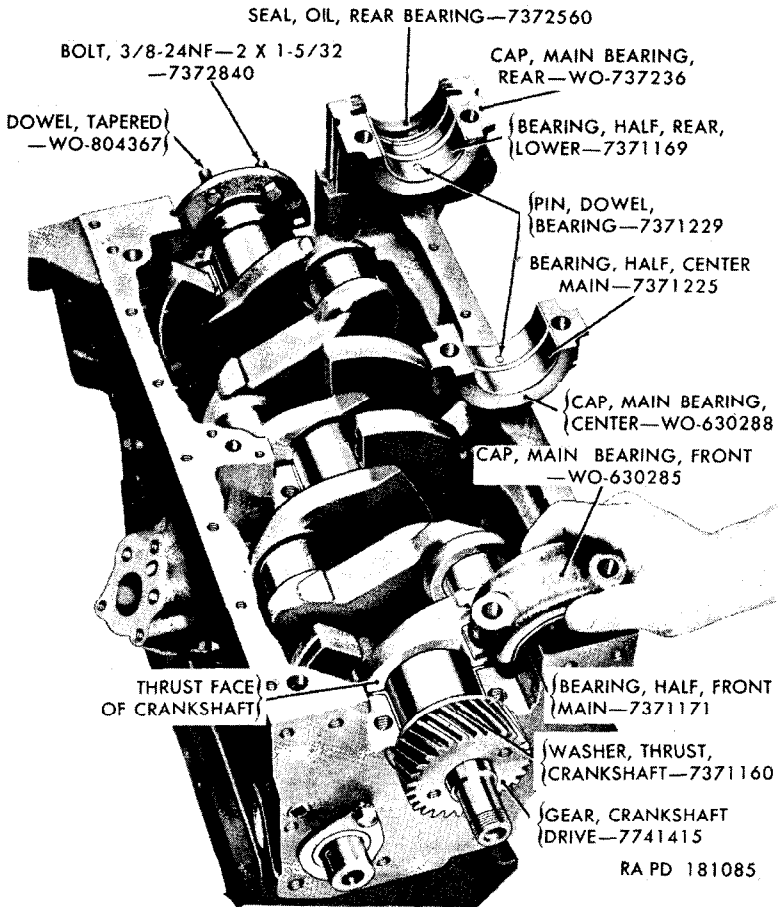
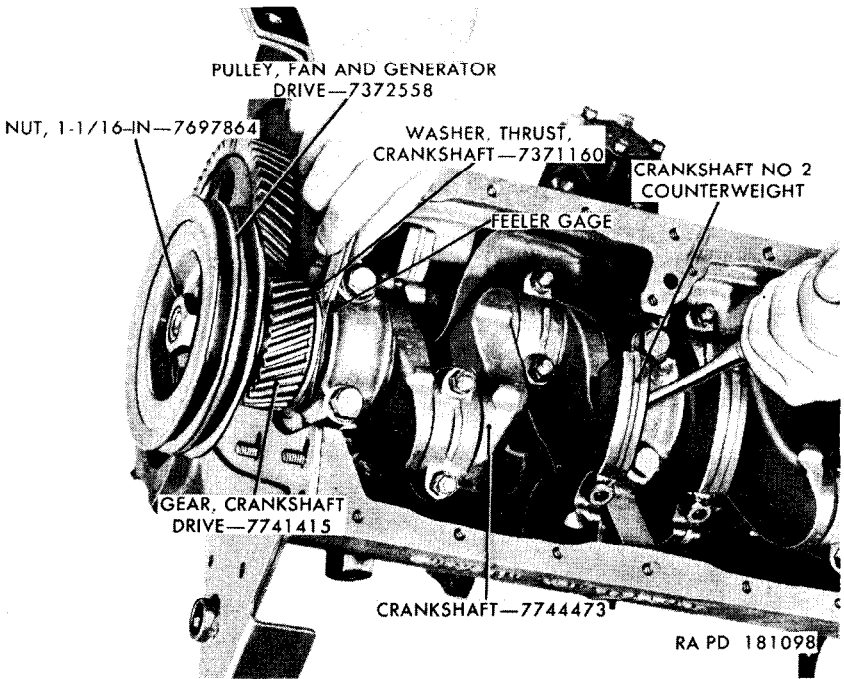

Figure 74. Installing main bearing halves in main bearing caps.
Figure 87. Gaging crankshaft end play.
- (1) Insert the other half of the rear bearing oil seal (fig. 74), a bearing dowel pin with the small diameter projecting into the bore, and the other half of the rear main bearing in the rear main bearing cap. Note that both halves of the rear main bearing have double oil grooves and non-flanged sides.
g. Lightly coat both ends of both halves of the rear bearing oil seal and both sides of the crankshaft rear main bearing cap (fig. 74) with plastic type gasket cement and install the bearing cap in the cylinder block. Coat both pieces of the rear bearing cap packing with plastic type gasket cement and insert the packing into the holes on
b. Install the center and front main bearings repeating operation a(1) and (2) above on each bearing.
Note. It is essential for the flanged sides of both halves of the front main bearing to be in perfect alignment when the front main bearing cap is tightened for the last time after completion of operations a(1) and (2) above. Align these surfaces by using a screwdriver or other suitable pry-bar (fig. 87) to force the crankshaft forward so the thrust face (fig. 74) of the crankshaft is held firmly against the flanged edge of the upper half of the front main bearing. Install and tighten the front main bearing cap, lightly tapping the cap backward to force the flanged side of the bearing against the thrust face of the crankshaft as the cap tightening operation progresses.
the fan and generator drive pulley (A, fig. 9), and the $1\frac{1}{16}$ -inch nut (B, fig. 9) on the front end of the crankshaft. Do not install the fan and generator drive pulley woodruff key (AF, fig. 9). Tighten the $1\frac{1}{16}$ -inch nut. Insert a screwdriver or other suitable pry-bar between the center main bearing support and the crankshaft number two counterweight (fig. 87) and pry the crankshaft forward. Insert a feeler gage between the crankshaft thrust washer and the flanged edge of the front main bearing and measure the crankshaft end play. This clearance must be between 0.004- and 0.006-inch (repair and rebuild standards (par. 143a)).